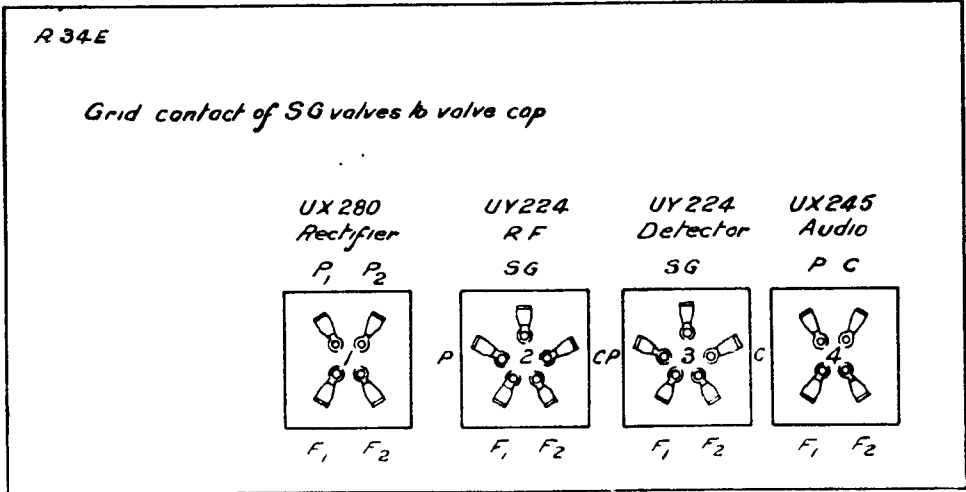

Fig. 4. Valve Sequence and position of Valve Contacts, Radiola 34E.
- 2. **VOLTAGE TEST.** After removing the chassis from the cabinet, with all the valves in position and with the loudspeaker connected, turn the chassis over. Fig. 4 shows the relative positions of the valve contacts with the chassis turned over, looking from the back of the Radiola.